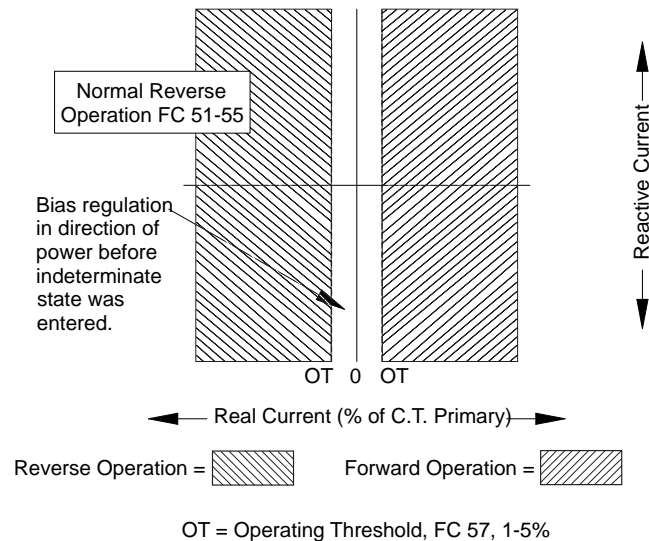

**Figure 6-12. Reactive bi-directional mode operation.**
**METERING:** (Figure 6-12.) A threshold level of 1% (.002 A) of the full load CT secondary current of .200 A is used in setting the power direction. The metering will be forward until the current exceeds the 1% threshold in the reverse direction. At this time, the various parameters use the reverse settings and the Reverse Power indicator turns on. The control continues metering in reverse until the current exceeds the 1% threshold in the forward direction, then the parameter scaling reverts back to the normal and Reverse Power indicator turns off.
**OPERATION:** (Figure 6-12.) The control determines which settings (forward/reverse) to use by sensing the real and reactive components of the current. The control operates in the forward direction whenever the magnitude of the reactive component of the current exceeds the operator-defined threshold (FC 57) in the negative direction. The control also operates in the forward direction if the magnitude of the real component of the current exceeds the operator-defined threshold (FC 57) in the positive direction while the magnitude of the reactive component of the current is between the operator-defined thresholds (FC 57). The control operates in the reverse direction using the reverse settings at FC 51, FC 52, FC 53, FC 54, and FC 55 whenever the magnitude of the reactive component of the current exceeds the operator-defined threshold (FC 57) in the positive direction. The control also operates in the reverse direction if the magnitude of the real component of the current exceeds the operator-defined threshold (FC 57) in the negative direction while the magnitude of the reactive component of the current is between the operator-defined thresholds (FC 57).